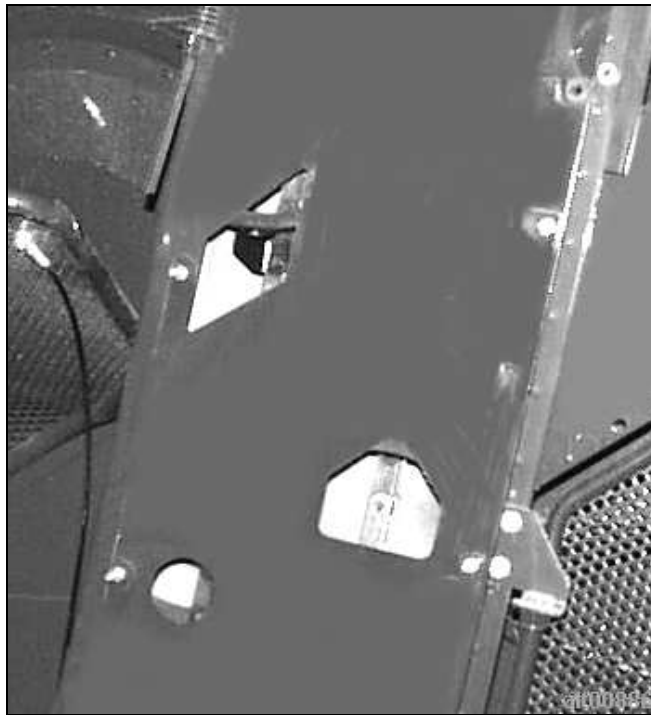

Figure 18. Inlet, outlet and access holes cut
5. Center punch locations of (4) outside mounting holes and (1) access hole.
7. Drill (4) mounting holes using provided 1/4 in. drill bit.
8. Cut out inlet and outlet holes using a suitable cutting device. Elevator should look like Figure 18 when all holes have been cut.